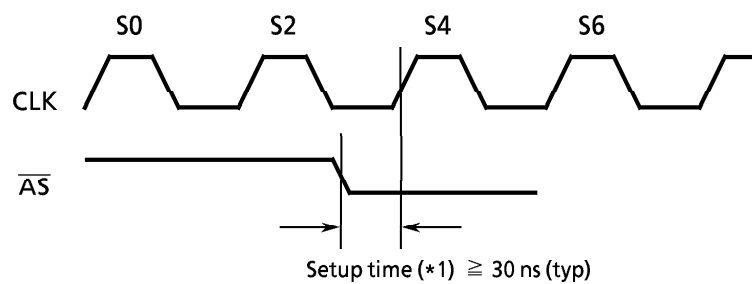

Figure 11.4 AS Signal Setup Time during Emulation
- (1) As TMP68305F does not have  $\overline{E}$ ,  $\overline{VPA}$ , and  $\overline{VMA}$  signals for controlling 8-bit peripheral devices, the  $\overline{VPA}$  input to the emulator must be pulled-up.
- (2) The 68000 interrupt vector automatic generation function cannot be used because TMP68305 does not have a  $\overline{VPA}$  signal. However, TMP68305F has an equivalent function in its internal interrupt controller. For interrupt requests from external devices, use the interrupt input pins INT0 to INT3 connected to the interrupt controller instead of  $\overline{IPL}$ .
- (3) The  $\overline{DTACK}$  and  $\overline{BERR}$  signals are open drain outputs in -EMU mode. Therefore, the  $\overline{DTACK}$  and  $\overline{BERR}$  signals generated on the target board must also be open drain outputs and pull-up resistors must be provided. At \*2 in the figures, high resistance can result in slow rise times and cause operational problems. Therefore, use resistances of about 1 k $\Omega$ .
- (4) The following problems can occur due to a slow rise time for the  $\overline{AS}$  signal output from the general-purpose 68000 emulator.
- If the  $\overline{AS}$  signal setup time (\*1 in Figure 11.4) does not satisfy the specification, the operation of the  $\overline{DTACK}$  automatic generation function may be impaired and  $\overline{DTACK}$  may not be asserted. (If  $\overline{DTACK}$  is not asserted, the bus cycle does not complete and a bus error is generated.) (Figure 11.4)